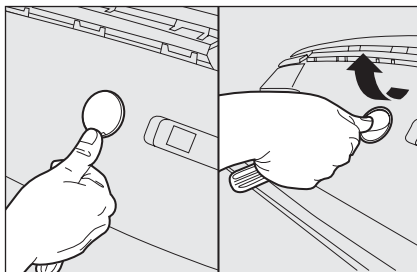

fig. 44
- ☐ extract the cap (without turning it) perpendicular to the supporting surface **fig. 44**.